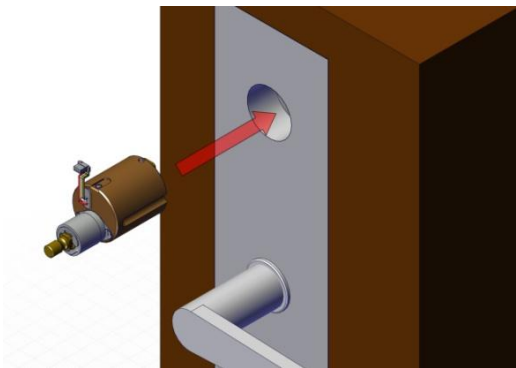
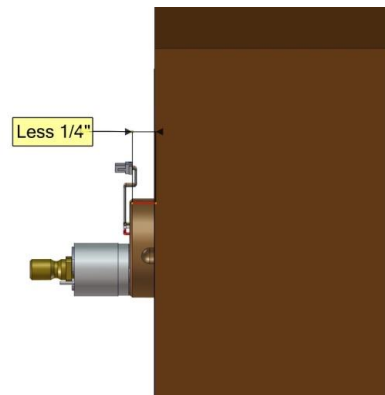
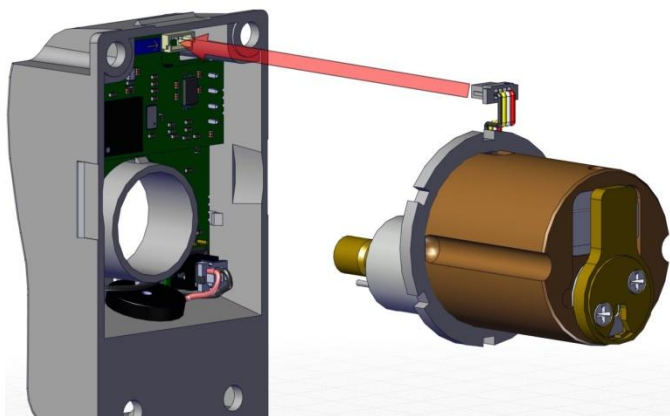
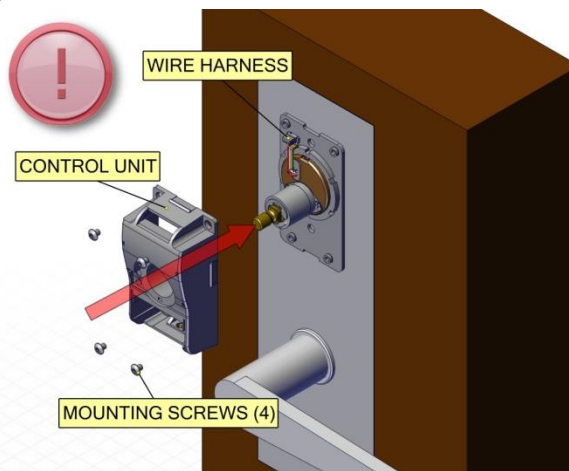

Fig. 5
Fig. 6
Fig. 12
Fig. 13
Screw the M100 into the cylinder mounting hole on the mortise hardware (Fig. 5). It is important to not over tighten, or to keep too loose on the door. The face of the M100 cylinder should stand proud of the escutcheon approximately 3/16"-1/4". Please also see (Fig. 12) before proceeding (Fig. 6).
**Step 5:** Connect control unit to wire harness and install 4 mounting screws (Fig. 12 and Fig. 13).
Thumbturn is not out far enough refer to Step 4, Fig. 12.
Cylinder is protruding out to far (included are optional spacers for proper spacing of cylinders) refer to Step 4, Fig. 12.